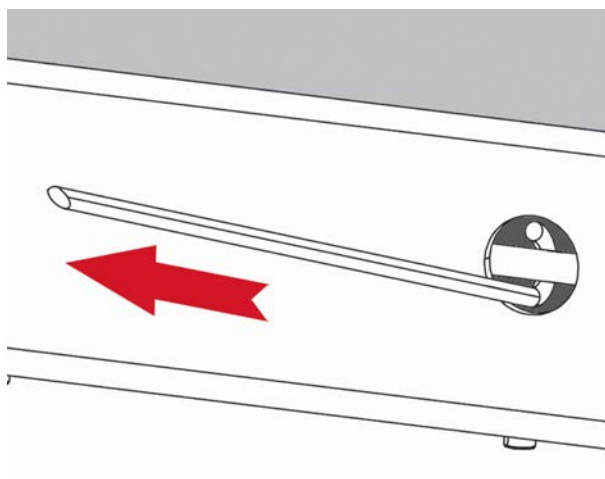

Figure 25: Releasing the Latch
- ⇒ Use the hook to pull firmly on the cable that can be seen through the opening (see Figure 25).
⇒ Only K70: Pull the latch once the platform has initially latched (see Figure 25, page 44).